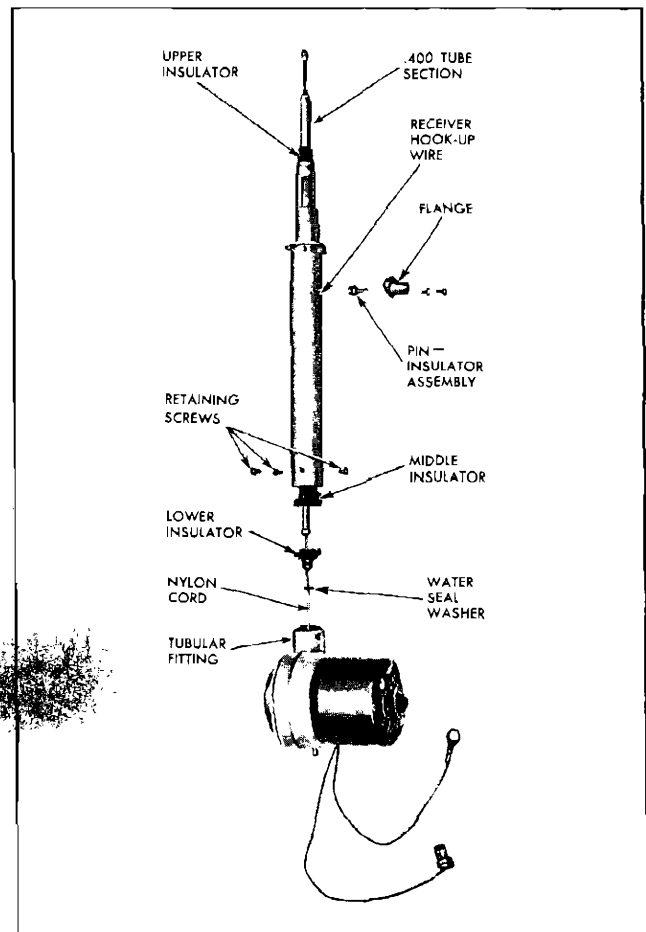

Fig. 12-6 Tenna Antenna—Exploded View
3. Disconnect ground wire, power wires and lead-in (Fig. 12-6).
Replace drive assembly, mast assembly, or support tube assembly (Fig. 12-6) as follows: